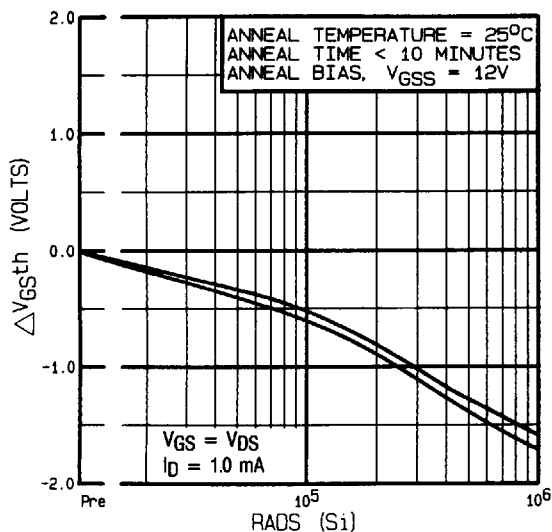
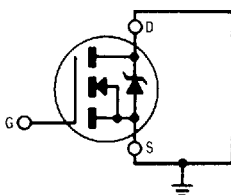
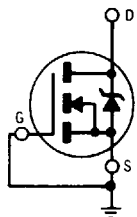
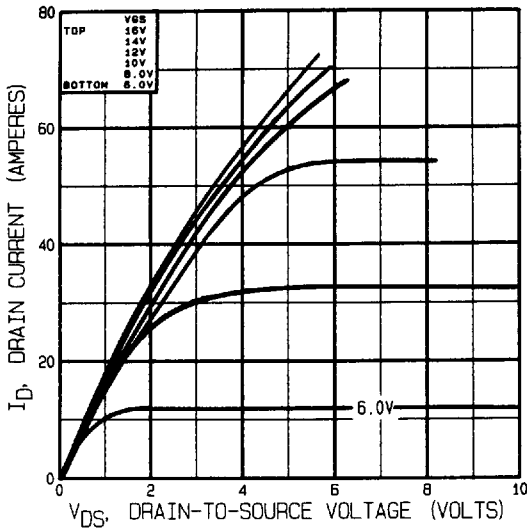

Fig. 1 — Typical Response of Gate Threshold Voltage Vs. Total Dose Exposure
Fig. 8a — Gate Stress of V_{GSS} Equals 12 Volts During Radiation
Fig. 8B — V_{DSS} Stress Equals 80% of B_{VDSS} During Radiation
Fig. 10 — Typical Output Characteristics
Every manufacturing lot is tested in a low dose rate (total dose) environment per MIL-STD-750, test method 1019. International Rectifier has imposed a standard gate voltage of 12 volts per note 7 and figure 8a and a V_{DSS} bias condition equal to 80% of the device rated voltage per note 8 and figure 8b. Pre and Post radiation limits of the devices irradiated to 1x10⁵ Rads (Si) are identical and are presented in table 1, column 1, IRHM7250. Device performance limits at a post radiation level of 1x10⁶ Rads (Si) are presented in Table 1, column 2, IRHM8250. The values in Table 1 will be met for either of the two low dose rate test circuits that are used. Typical delta curves showing radiation response appear in Figures 1 through 5. Typical post radiation curves appear in Figures 10 through 17.
- ③ @ V_{DD} = 25V, Starting T_J = 25°C, L = 1.9 mH, R_G = 25Ω, Peak I_L = 26A
- ④ I_{SD} ≤ 26A, di/dt ≤ 190 A/μs, V_{DD} ≤ BV_{DSS}, T_J ≤ 150°C Suggested R_G = 2.35Ω
- ⑤ Pulse width ≤ 300 μs; Duty Cycle ≤ 2%
- ⑥ K/W = °C/W W/K = W/°C
- ⑦ Total Dose Irradiation with V_{GS} Bias. +12 volt V_{GS} applied and V_{DS} = 0 during irradiation per MIL-STD-750, method 1019. (See figure 8a)
- ⑧ Total Dose Irradiation with V_{DS} Bias. V_{DS} = 0.8 rated BV_{DSS} (pre-radiation) applied and V_{GS} = 0 during irradiation per MIL-STD-750, method 1019. (See figure 8b)